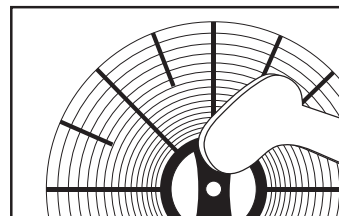

Fig. 11
4. Use the brush attachment with your vacuum cleaner. Run the attachment along both sides of the nano-coil filter, taking care not to dislodge the combs. See Fig. 11
5. Use the brush attachment with your vacuum cleaner. Run the attachment along both sides of the pre-filter. See Fig. 11